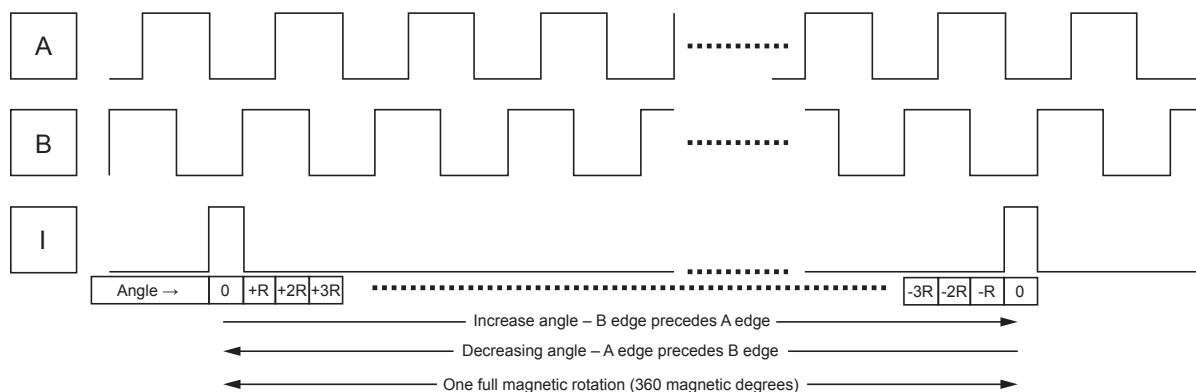

Figure 5: One Full Revolution
The AAS33001 offers an incremental output mode in the form of quadrature A/B and Index outputs to emulate an optical or mechanical encoder. The A and B signals toggle with a 50% duty cycle (relative to angular distance, not necessarily time) at a frequency of $2N$ cycles per magnetic revolution, giving a cycle resolution of $(360 / 2^N)$ degrees per cycle. B is offset from A by $1/4$ of the cycle period. The “I” signal is an index pulse that occurs once per revolution to mark the zero (0) angle position. One revolution is shown in Figure 5.